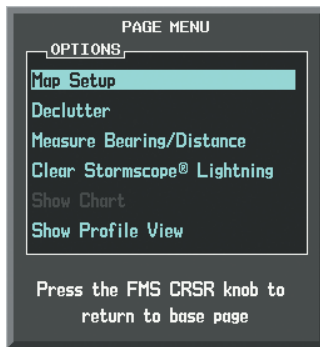

Figure 6-92 Navigation Map Page Menu
- 3) With Map Setup highlighted, press the **ENT** Key (Figure 6-92).